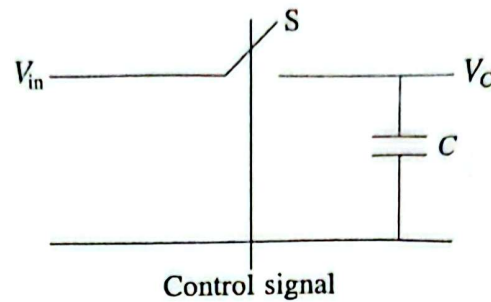

Fig. 4(a)
4. a) The circuit shown in Fig. 4(a) is a primitive theoretical model of a Sample-and-Hold (S/H) circuit. Using this figure, answer the questions (i) to (iii) –
- ii) Identify at least three major practical issues that arise if this circuit is directly implemented as shown in Fig. 4(a).